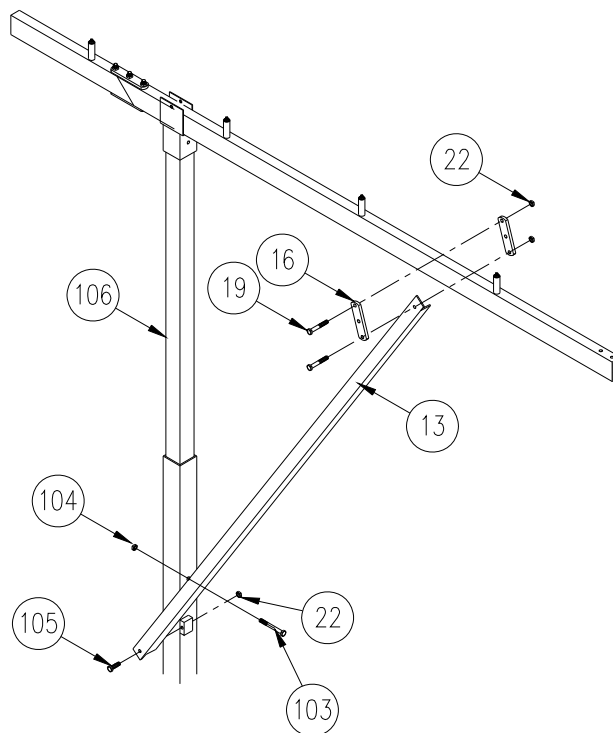

Figure 2-6
5. Refer to **Figure 2-6**. Attach the canopy braces at the bow end of the lift. Insure the stringers are level and at the desired position before tightening the bolts. Note that the braces are supplied only with 21 foot and longer canopies. For 26 foot and longer canopies, an additional pair of braces is supplied. Install the longer braces on the canopy side with the greatest overhang, which is usually the bow end of lift.